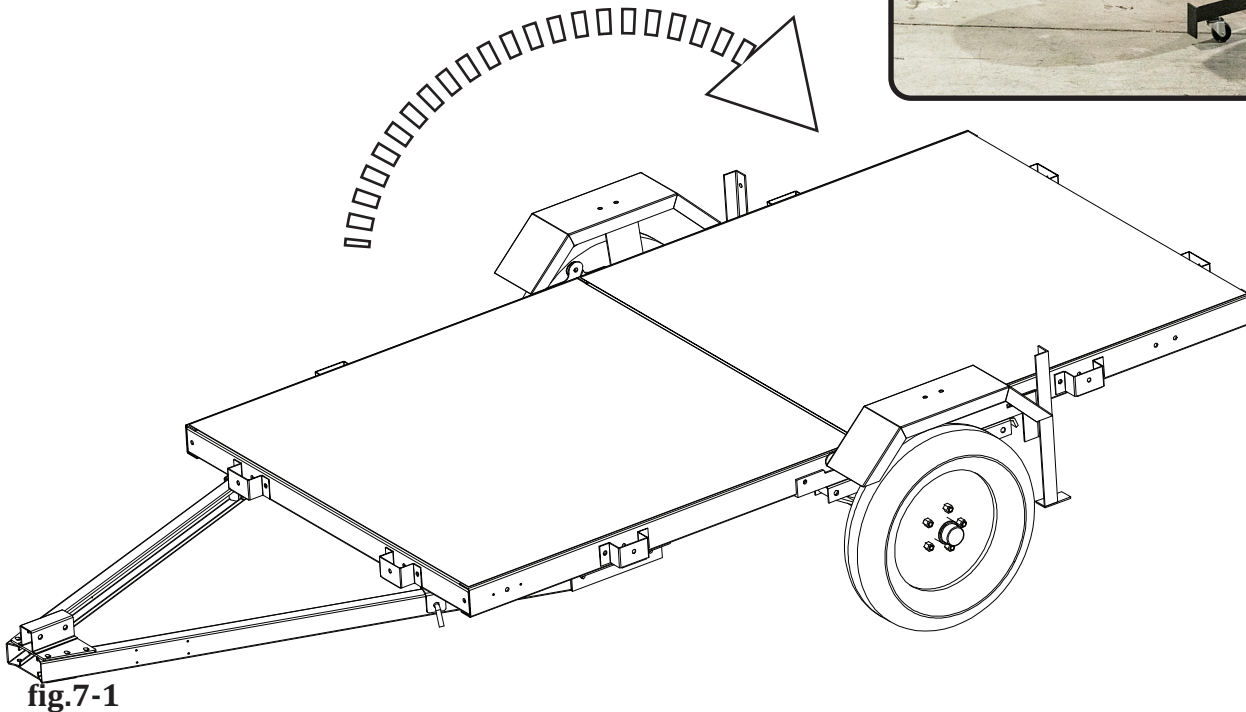

fig.7-1
2. Fasten the brackets together using the M10 x 20 (34) on both sides
3. Carefully flip the rear trailer bed down as shown in fig. 7-1